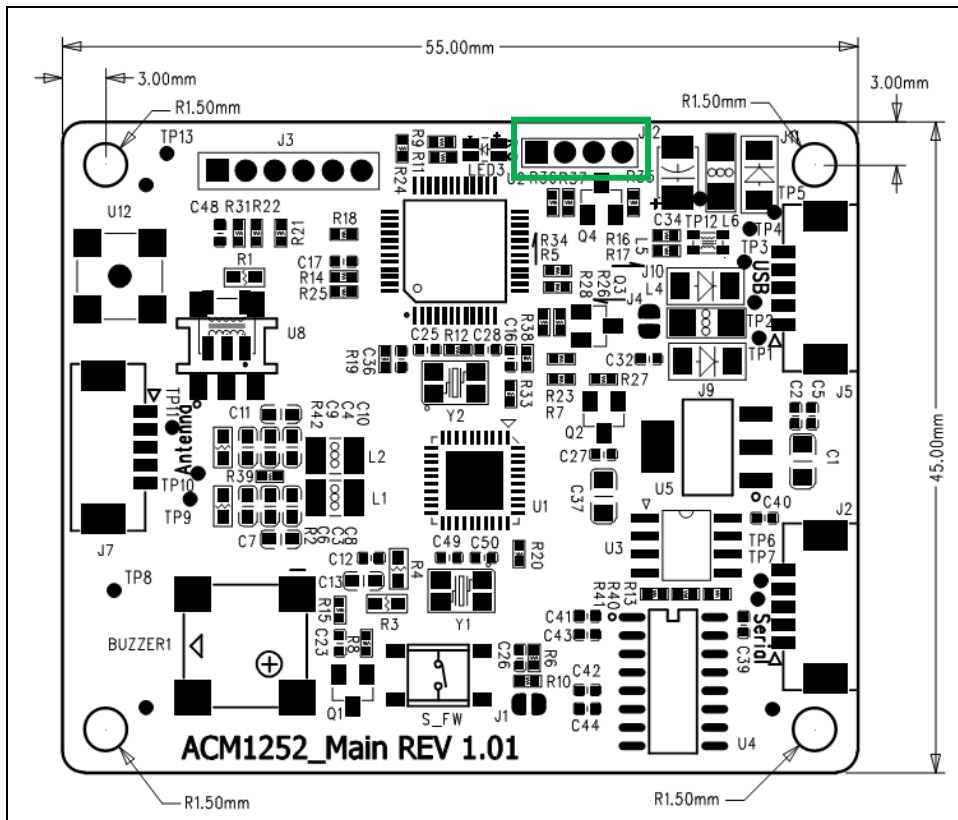

Figure 3: ACM1252U-Y LED Configuration
- Figure 3 : ACM1252U-Y LED Configuration 6**
1. Connect jumper to **J12** for the LED status of power and card signals (see **Figure 3**).